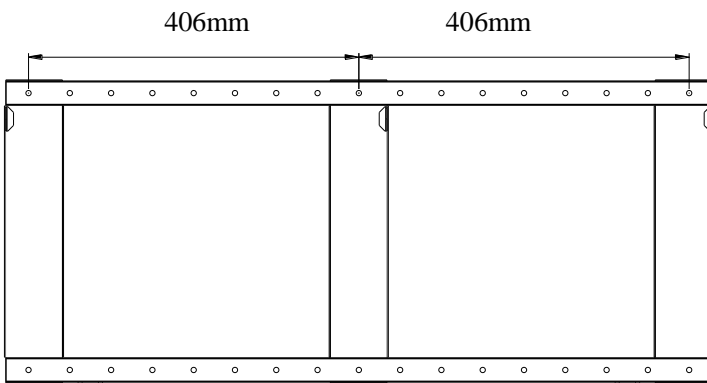

Fig. 3
2. Choose a solid plain wall and put the bracket in the position where you want to install the fireplace. Mark holes with a pen (6 for EF68/69PEN, 8 for GE70/72PEN) using the holes in the mounting bracket as a guide (Fig. 3)